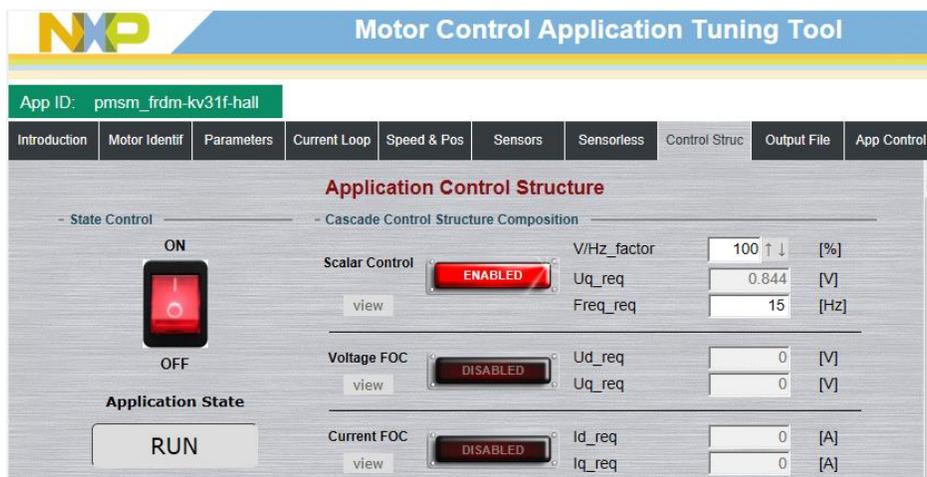

Figure 37. MCAT scalar control
3. Set the required frequency value in the “Freq_req” field; for example, 15 Hz in the “Scalar Control” section. The motor starts running (Figure 37).